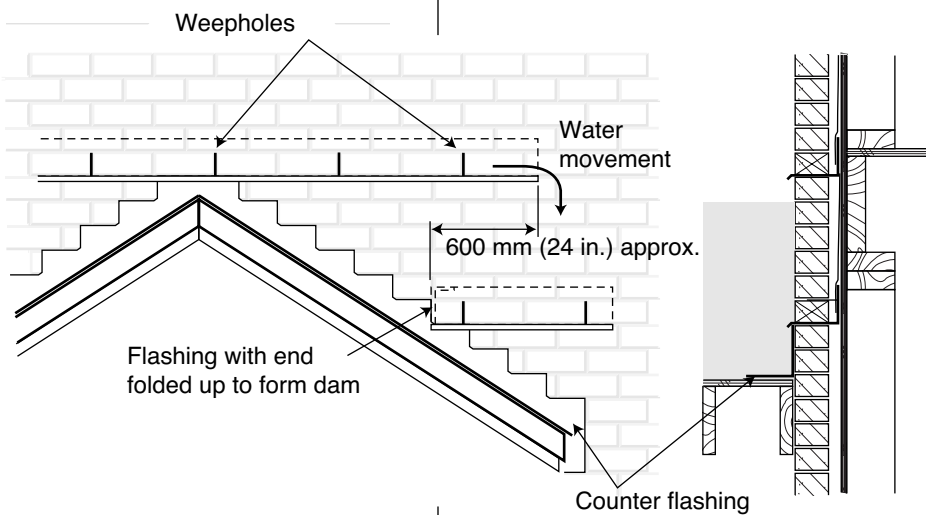

FIGURE 45
- ◆ Minimize reliance on caulking. Provide flashing and counterflashing at all intersections between roofs and walls. This will accommodate all differential movement between the two surfaces and prevent the entry of water (see Figure 45).